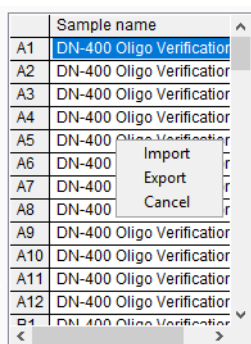

Figure 9 Sample name table form on main screen with context menu displayed
| <ol style="list-style-type: none"> 1 Main screen toolbar 2 Electropherogram trace 3 Plate map 4 Sample name table 5 Info 6 Peak table 7 Settings tabs 8 Apply settings 9 Filename | <p>An Electropherogram trace of the currently selected well. The well position and sample name (if imported) is displayed in the upper left corner of the trace. Use the Electropherogram trace toolbar and context menu to process or annotate the data (Table 5 and Table 6).</p> <p>Shows the currently selected well highlighted in green (A1 is the default location on opening the file). Click on the appropriate well by using the keyboard arrows. You can select any well of the plate for individual viewing.</p> <p>Displays the sample names as entered into the instrument software, or imported after post-run. Enables you to navigate to the samples (Figure 9). A brief summary is given in section “Sample Name Table” on page 27.</p> <p>Click to access experimental information regarding the method used to collect the data file (Figure 5).</p> <p>Displays information about the selected and integrated sample peaks (see also Figure 8). For more information, refer to section “Peak Table” on page 26.</p> <p>Configuration settings, for which most settings can be individually adjusted for each sample as desired. For more detailed information, refer to Chapter 4, “Oligo Pro II Data Analysis Software – Settings Menu”.</p> <p>Applies configuration settings individually to a selected sample, or to all samples.</p> <p>Upon opening a data file, the currently selected filename/directory is displayed in the lower left toolbar.</p> |
- Post-run by selecting the **Import** function from the context menu of the sample name table (**Figure 9**):
Export the currently entered sample names to a .csv file via the context menu. Right-click on the **Sample name** table, and select **Export** (**Figure 9**).